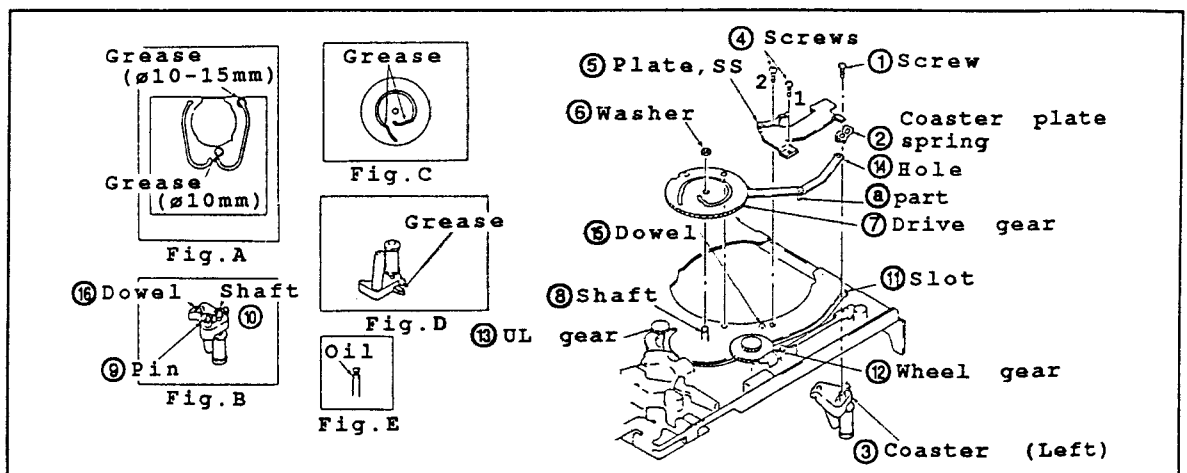

Fig.II-25
• Disassembling (Fig.II-25)
- (1) In the same procedures in "3-3" and "3-12", dismount the capstan motor and the drum unit.
- (2) In the same procedures in "3-13" and "3-14", detach the switch lever, and the loading lever.
- (3) In the same procedures in "3-17", detach the coaster (Right) and the drive gear (Right).
- (4) To take off the coaster plate spring ② and the coaster (left) ③, remove the screw ①.
- (5) To detach the plate SS ⑤, remove the two set screws ④.
- (6) To take off the drive gear (Left) ⑦, remove the washer ⑥ (ø1.5).
• Reassembling (Fig.II-25)
- (1) Apply the grease onto the indicated positions of chassis in the Fig.A.
- (2) Apply the 1/2 drop of oil onto the shaft ⑧. (Fig.E)
- (3) Apply the grease onto the pin ⑨, the shaft ⑩ and the dowel ⑬ of coaster (Left) ③. (Fig.B)
- (4) Assemble the pin ⑨ and the shaft ⑩ aligning the slot ⑪.
- (5) Insert the driver gear (Left) ⑦ into the shaft ⑧ while meshing with the wheel gear ⑫ and the UL gear ⑬.
- (6) Align ⑧ part with the slot ⑪, and the hole ⑭ with the pin ⑨ of coaster (Left) ③.
- (7) Secure it with the washer ⑥ (ø1.5).
- (8) Install the coaster plate spring ② while aligning the shaft ⑩ and the pin ⑨ of coaster (Left) ③. Then, secure it with the screw ①. (Torque: 500g/cm, approx)
- (9) Attach the plate SS ⑤ while aligning with the dowel ⑬. Then, secure it the two screws ④ in numerical order.
- (10) Apply the grease onto the positions indicated in the Fig.C and D.